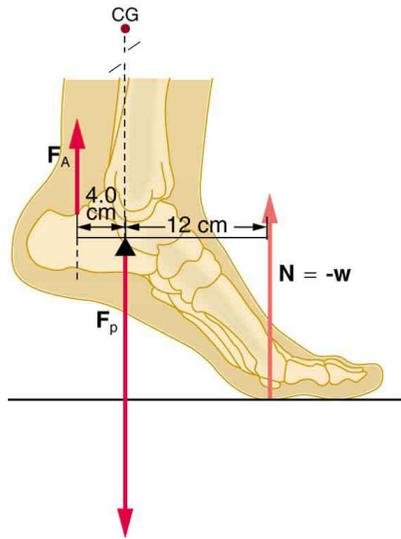

Figure 9.42 The muscles in the back of the leg pull the Achilles tendon when one stands on one's toes. A simplified lever system is shown.
52. A 75-kg man stands on his toes by exerting an upward force through the Achilles tendon, as in **Figure 9.42**. (a) What is the force in the Achilles tendon if he stands on one foot? (b) Calculate the force at the pivot of the simplified lever system shown—that force is representative of forces in the ankle joint.